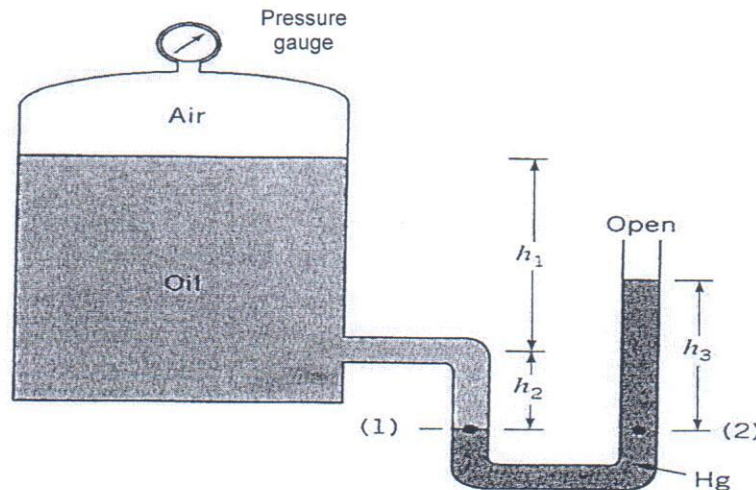

Figure Q.2.
2. Figure Q.2 shows a closed tank containing compressed air and oil. A U-tube manometer is connected to the tank. Calculate the pressure reading (in psi) shown by the pressure gauge at the top of the tank.